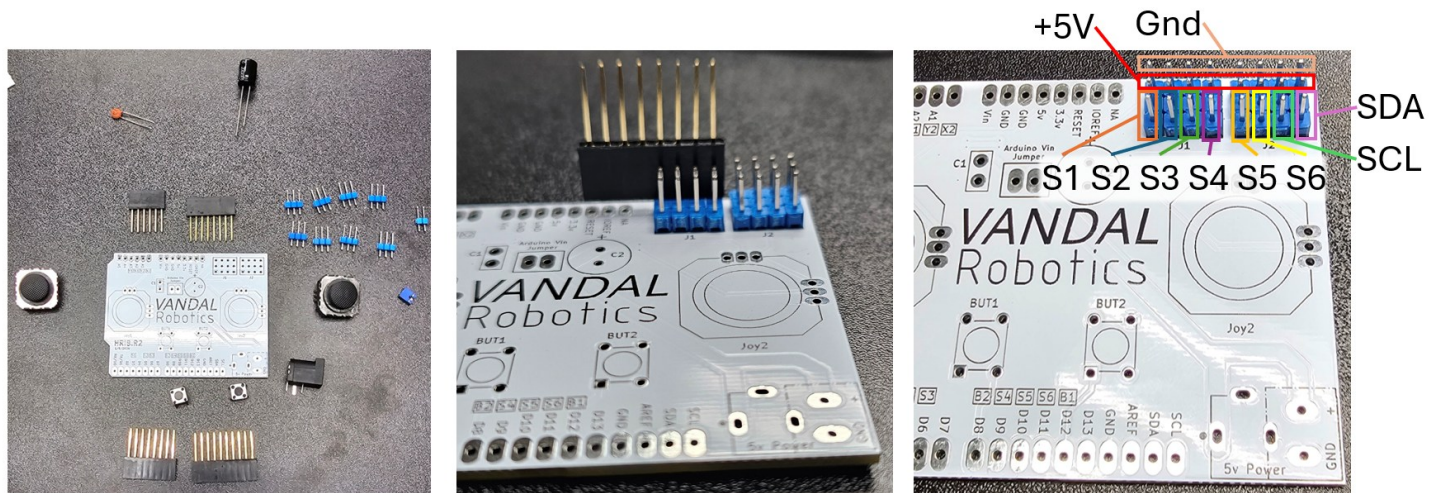

Figure 2. (Left) Components for the HRIB Shield, (Center) Aligning J1 and J2 pins using another header component, and (Right) pin out of J1 and J2.
- b. These headers distribute 5V, GND, & signal to up to 6 servos. The last two provide secondary access to power and SDA/SCL pins for later expansion (Figure 2).